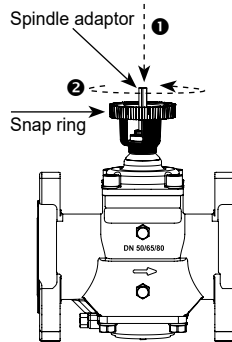

Figure 2
❶ Then place the actuator on the spindle adaptor and place the three actuator "legs" into the three holes in the mounting bracket (figure 2 and 3). Make sure that the snap ring is clicked onto the mounting bracket, so that the snap ring is locked at the top of the mounting bracket, but still able to rotate. ❷ Then finger-turn the snap ring counter clockwise (upside view) approximately 1/6 of a turn until its stop points touch the actuator "legs" and the mounting is lock with a (small) click. Do not use additional tools.